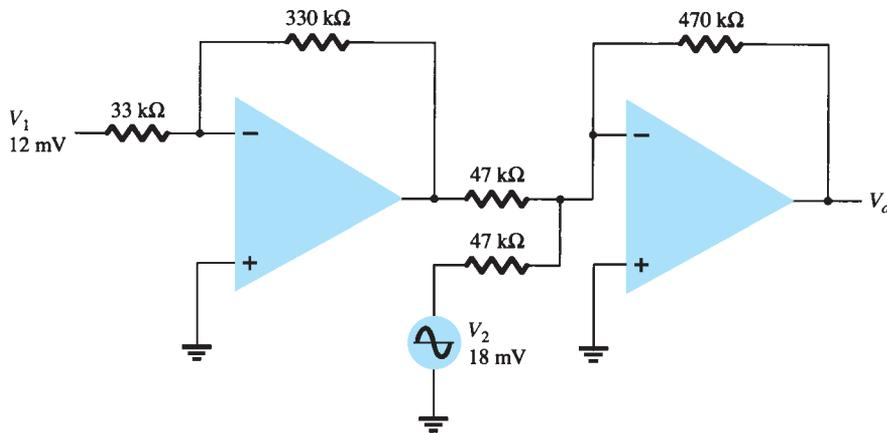

FIG. 11.52
8. Determine the output voltage for the circuit of Fig. 11.52.